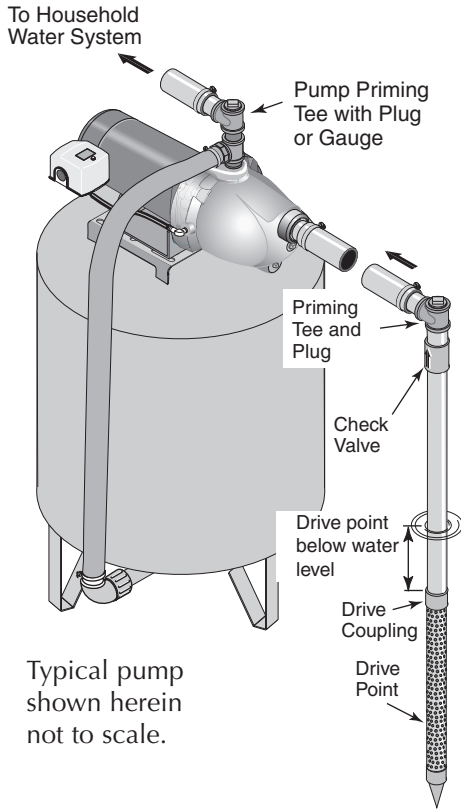

Figure 1 - Driven Point Installation
Well Point (Driven Point) Installation (Figure 1)
3. Use the fewest possible fittings (especially elbows) when connecting the pipe from the well point to the pump suction port. The suction pipe should be at least as large as the suction port on the pump (include a check valve if your pump is not equipped with one – see Figure 1). Support the pipe so that there are no dips or sags in the pipe, so it doesn’t strain the pump body, and so that it slopes slightly upward from the well to the pump (high spots can cause air pockets which can air lock the pump). Seal the suction pipe joints with PTFE pipe thread sealant tape or a PTFE-based pipe joint compound. Joints must be air- and water-tight. If the suction pipe can suck air, the pump cannot pull water from the well. If one well point does not supply enough water, consider connecting two or three well points to one suction pipe.